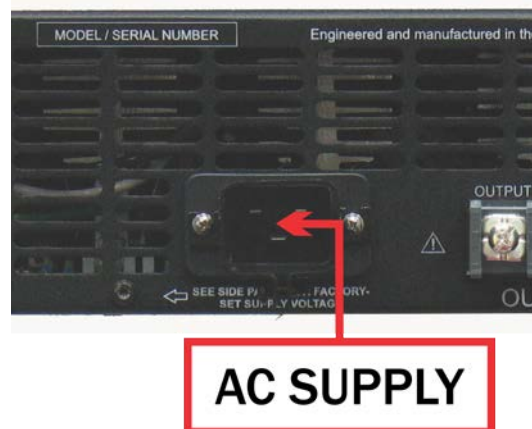

Figure 3.6 – Closeup of AC Mains Outlet
The power cord connects to a standard 20 amp 3-pin IEC-type male connector on the back panel (see **Figure 3.6**). Make sure the Breaker/Switch on the front panel is switched to the OFF (O) position. Make sure the power cord is inserted and seated fully into the IEC connector by moving it slightly back and forth and up and down while pushing in. The power cord is relatively stiff and should be routed so that there is no excessive force pulling to the sides or up or down that would stress the pins or internal connections. Tighten the cord strain relief screw to lock the power cord in place.